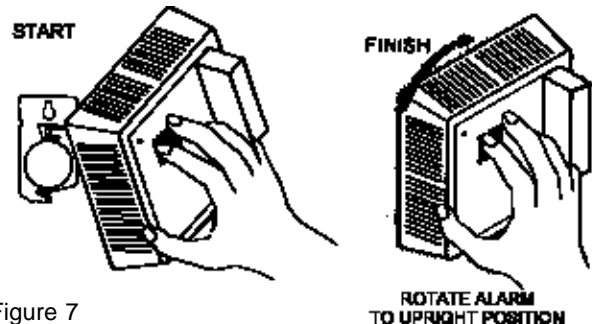

Figure 7
4. Mount the alarm to the bracket as illustrated in Figure 7.